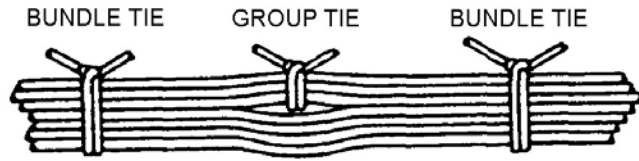

Figure 2. Group and Bundle Ties
b. When several wires are grouped at junction boxes, terminal boards, panels, etc., retain the identity of the group within a bundle by spot ties, as shown in Figure 2.